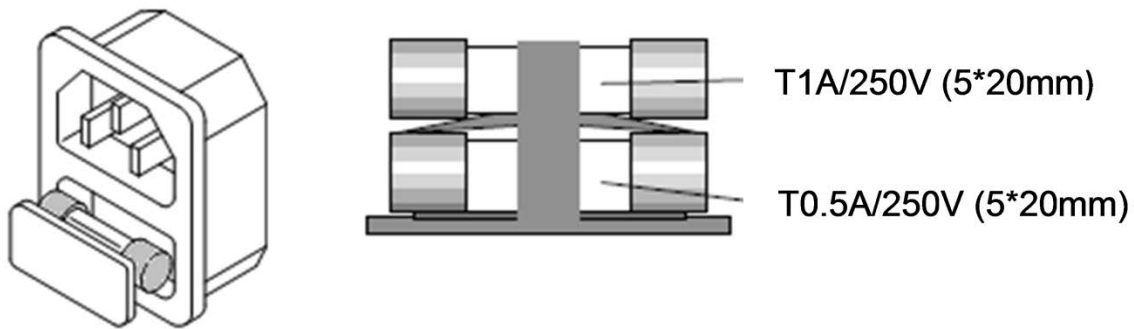

Figure 2: Fuse Holder Location
2. The AC line fuse is located below the AC line socket (see Figure 2). Use a small screwdriver to remove the fuse holder. Replace the failed fuse with the appropriate type and rating according to your mains voltage. (See Table 2)
Figure 2 shows pin assignments for the DSUB-15 connector when the remote controller option is fitted to the 44M02 mainframe. The remote controller allows the first 10 memory locations to be recalled. Set ups saved at these memory locations can include dynamic waveforms and the load ON state.